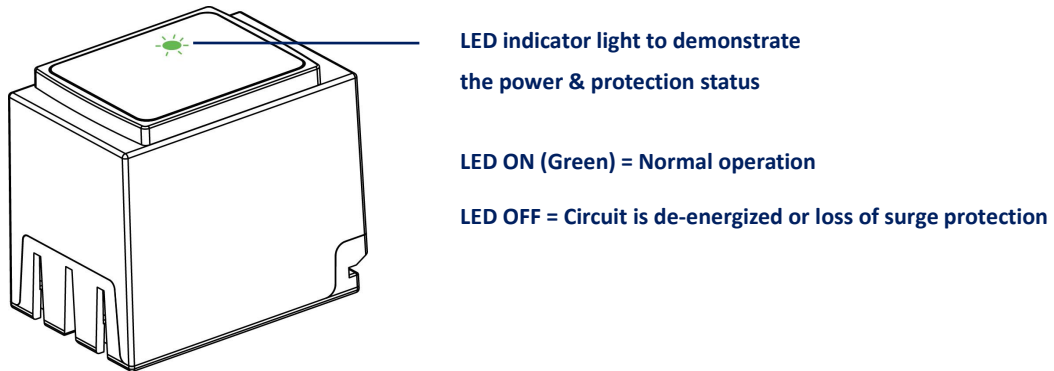

Fig. 4. LED indicator light status
7. Re-apply power and verify the LED indicator light on the SPD illuminates (see Fig. 4).